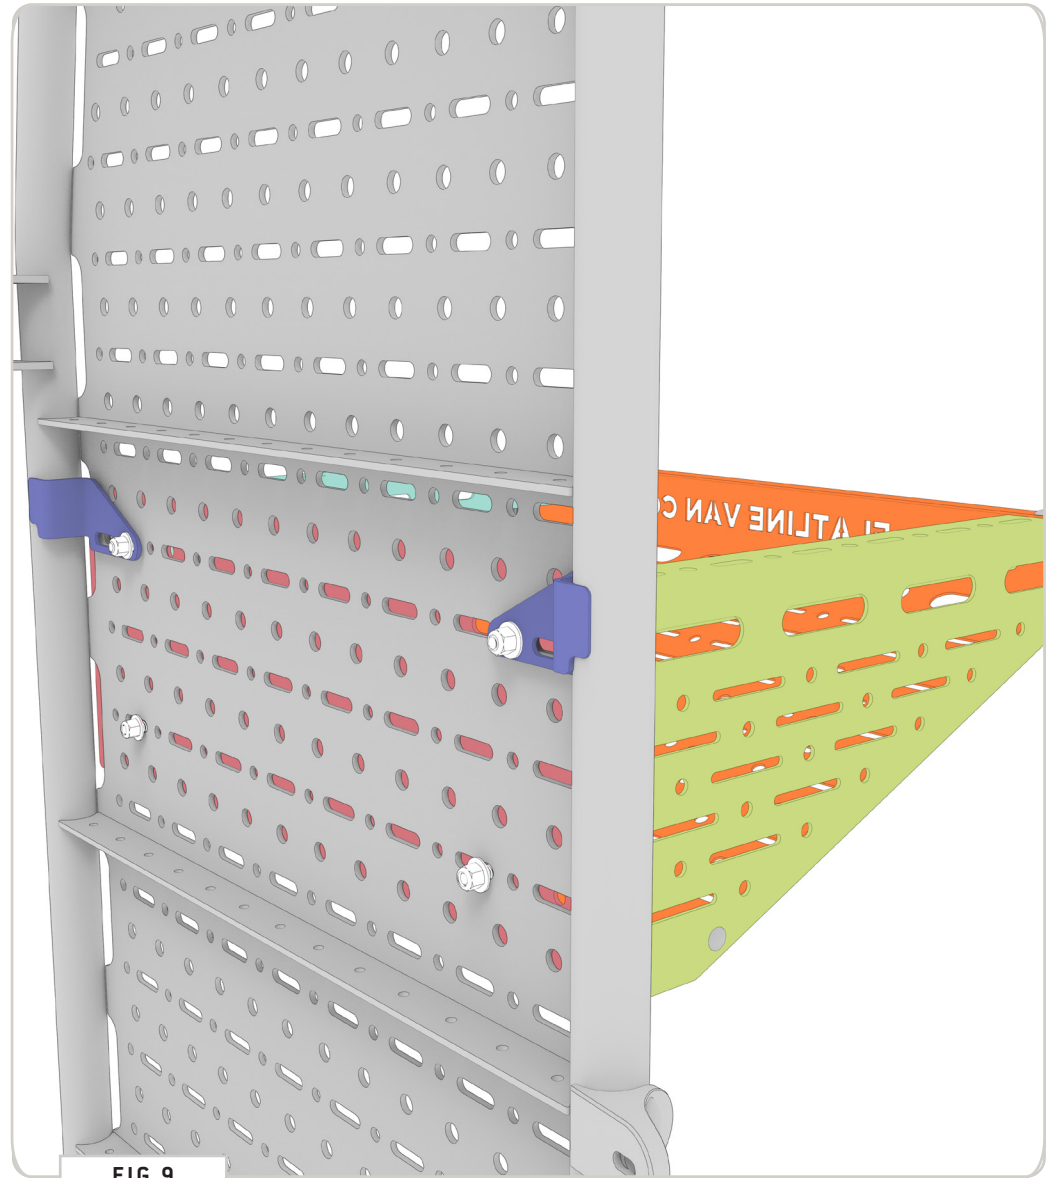

FIG 9
3.2 Secure Bike Tray to Platform: Secure **Bike Tray** through lower mounting holes with **3/8-16 x 1 Flanged Hex Head Screws, Flat Washers and Nylon Locknuts (FIG 9)**.